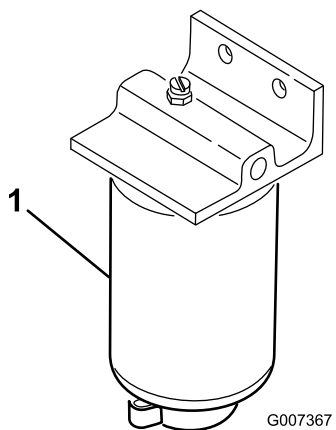

Figure 27
2. Place a drain pan under the fuel filter (Figure 27).
3. Open the drain plug on the bottom of the fuel filter and drain any accumulated water (Figure 27). Tighten the plug after draining.